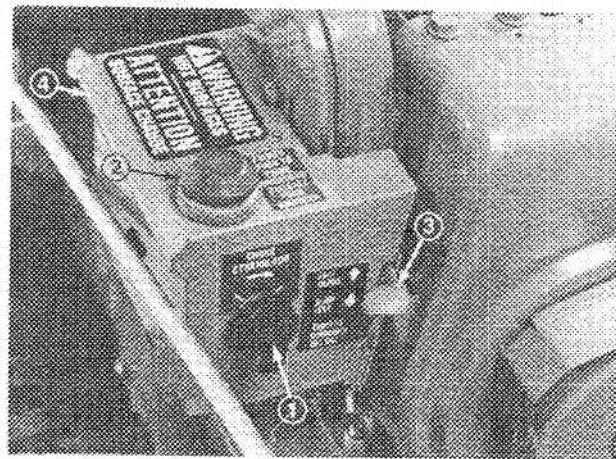

Figure 20
Note: If engine is operated when temperature is +40° F (4° C) or higher, remove carburetor heater box (Fig. 20). However, the heater box must be re-installed when temperature falls below +40° F (4° C). To remove heater box:
- A. Remove phillips screws and hex head screw securing heater box in place. Pull choke knob off choke rod (Fig. 20).
1. Move throttle to FAST (Fig. 20).
3. Rotate choke clockwise to full choke position (Fig. 20).
5. Depress primer (Fig. 20) five times.
7. After engine starts, immediately rotate choke (Fig. 20) to 3/4 position. As engine warms up,